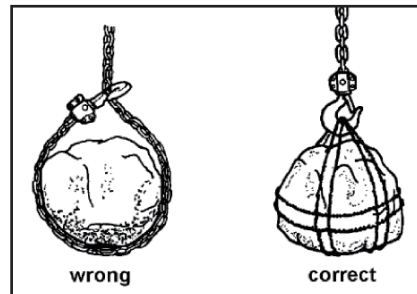

FIG 10
- When lifting loads, hook the load with slings. Do not use the lever hoist chain as a sling (FIG 10).